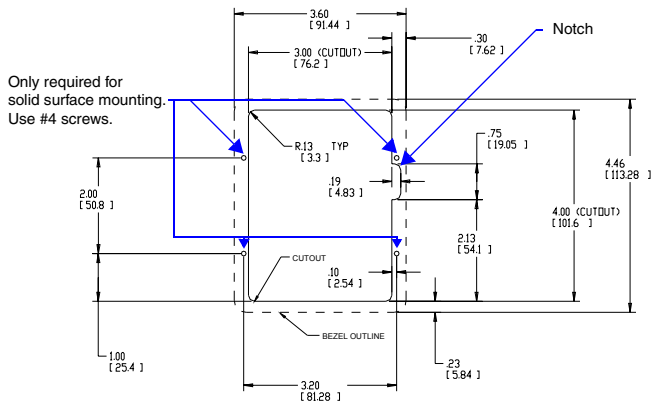

FIG. 3 Mio DMS Installation Using Either Expansion Clips or #4-40 Screws
FIG. 3 shows the mounting dimensions for the Mio Modero DMS. Reference these measurements when planning and installing the device. Consult the *Mio Modero DMS & Mio Modero DMS Pinnacle* instruction manual for other installation methods.
2. Cut out the surface for the Mio Modero DMS backbox using the dimensions shown in FIG. 3. A template is included to help you determine dimensions.